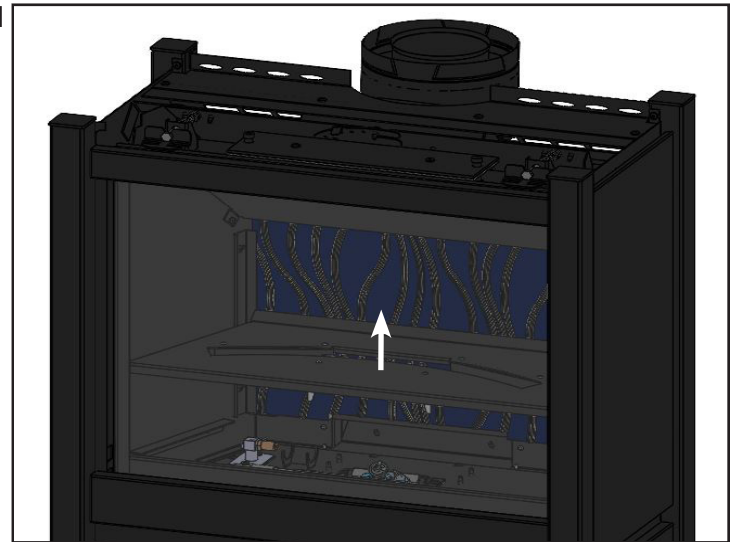

Fig. 11
6. Remove the Floor Plate assembly from Firebox and set aside. (**Fig. 11**)